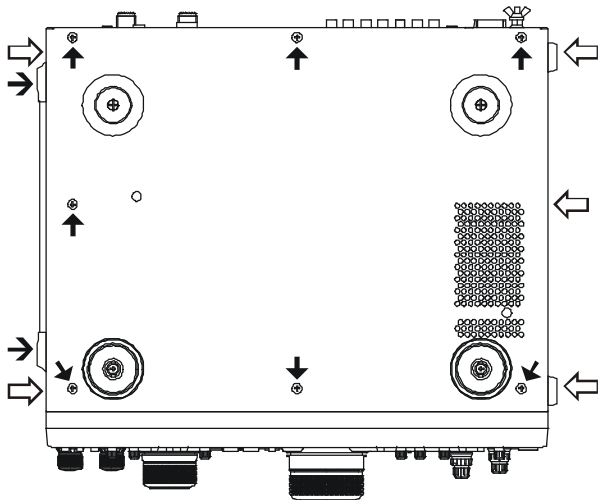

Figure 1
- Referring to Figure 1, remove the carrying handle and its two screws (\rightarrow), then remove the four screws (\Leftrightarrow) on each side of the transceiver, and the seven screws (\rightarrow) from the bottom of the transceiver, then lift off the bottom cover.
- ❑ Referring to Figure 1, remove the carrying handle and its two screws (➔), then remove the four screws (⇔) on each side of the transceiver, and the seven screws (➔) from the bottom of the transceiver, then lift off the bottom cover.